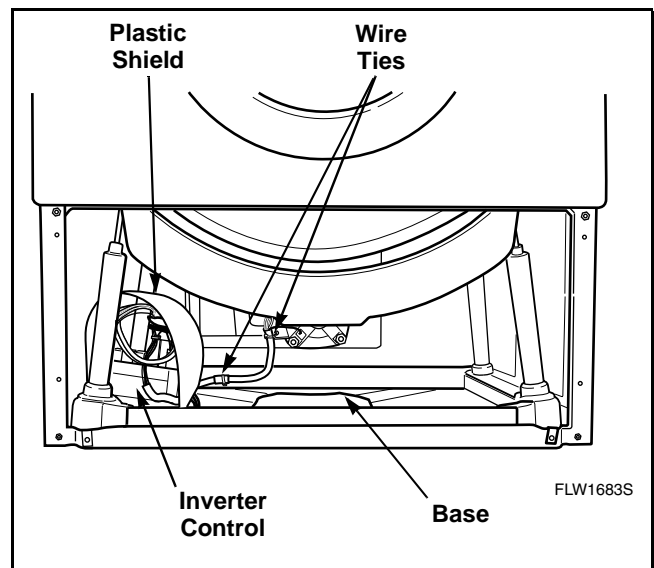

Figure 42
- Remove screws holding inverter control to base of washer. Refer to *Figure 42*.
- h. Position the new inverter control on base of washer as shown in *Figure 42*. Reinstall screws (removed in Step “f”) and tighten firmly.
- j. Secure wires to base and motor using new wire ties. Refer to *Figure 42*.